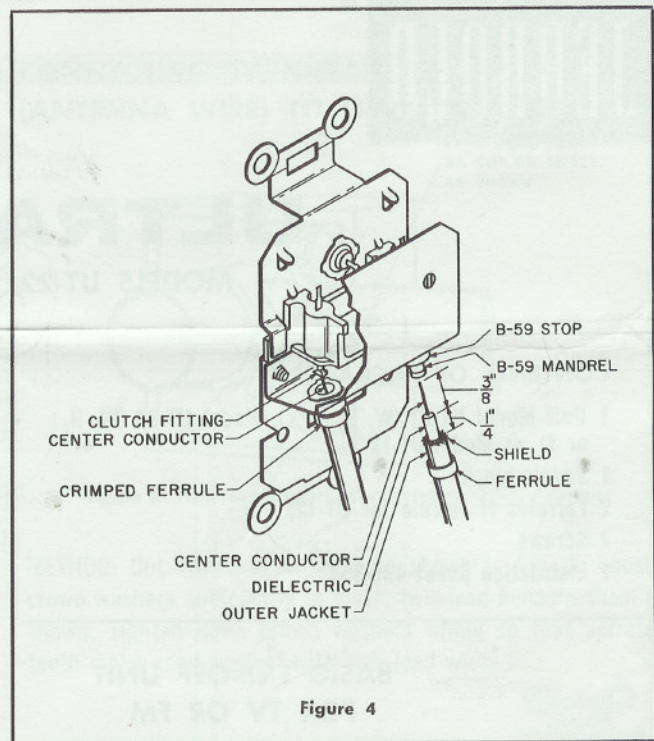

Figure 4
3. Refer to Fig. 4 for cable preparation and installation on bushing. Slip ferrule(s) over cable end(s), making sure they do not slip back into conduit or outside of box. Trim off